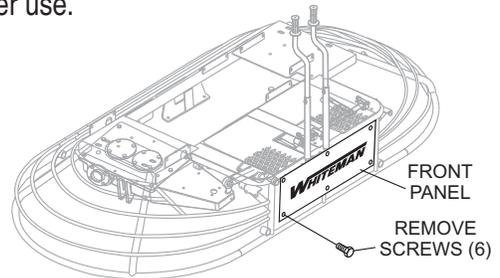

Figure 2. Remove Front Panel
2. Remove front panel to gain access to steering linkage. Use 3/8" open wrench to remove 6 screws securing front panel to the frame (Figure 2). Retain screws for later use.